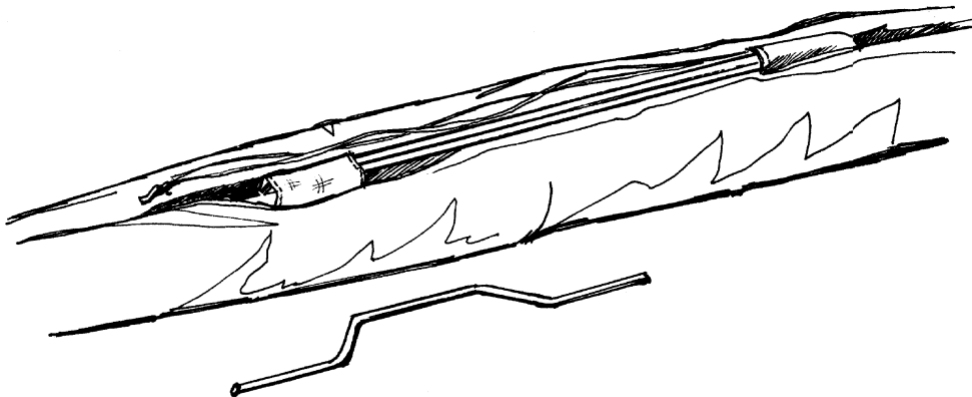

Fig. 46
4.1.9. Place the spreader bar of the hang loop between the uprights. Cover the control bar/keel tube junction by a protective padding (Fig. 46). Bring all wires forward along tubes and place uprights inside the folded sail. Zip the zipper.